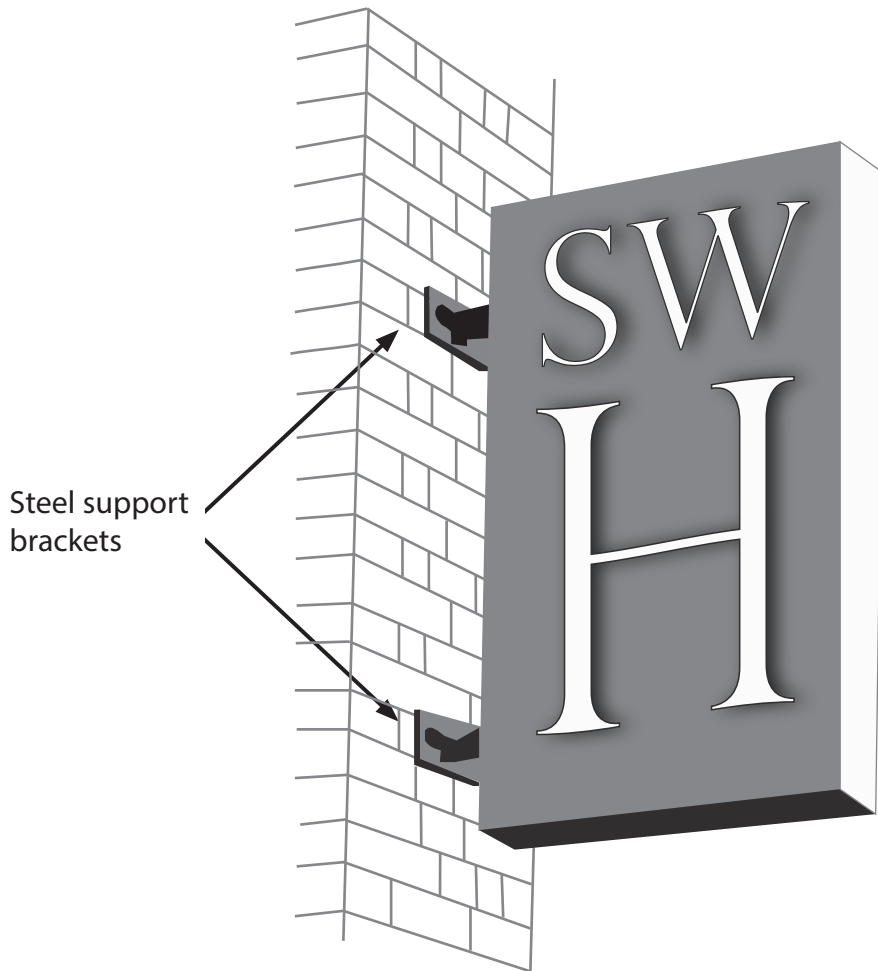

Figure 2
- 5 Figure 2 shows an illuminated shop sign that has been manufactured using the vacuum forming process.